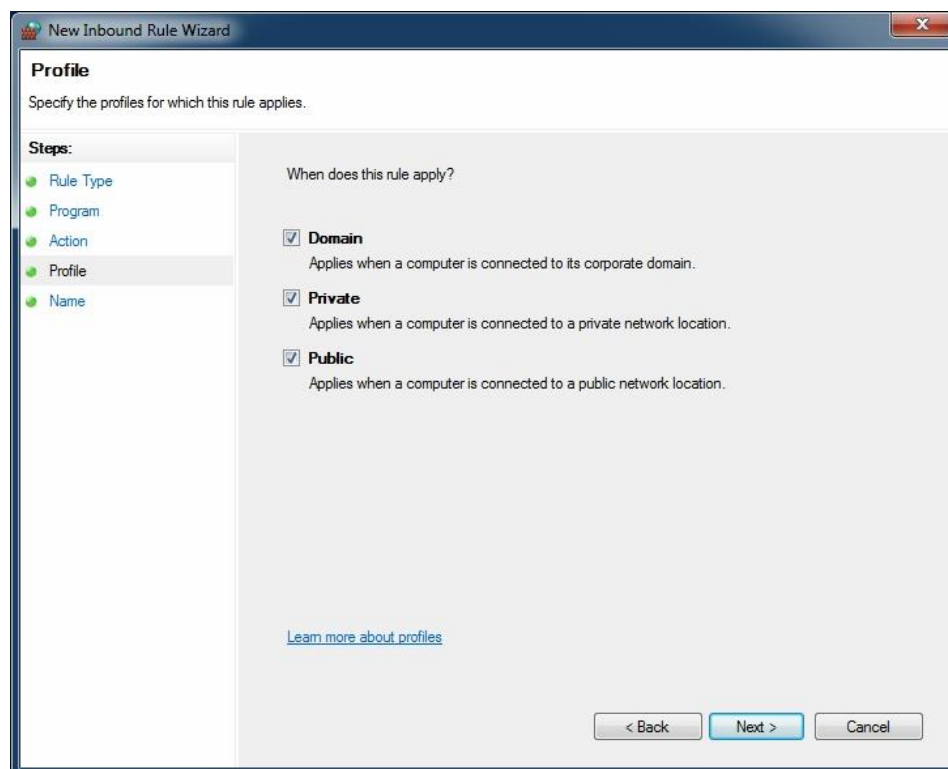

Figure 2-14 Windows Firewall – Advanced Security New Rule: Domains
Step 9: On the PROFILE menu, select the domains that the rule will apply to as shown in Figure 2-14.